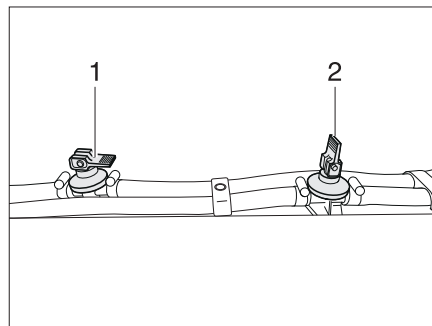

Fig. 375 Drain cock
- Close all drain cocks. Position the rocking lever (Fig. 375,1) horizontally.